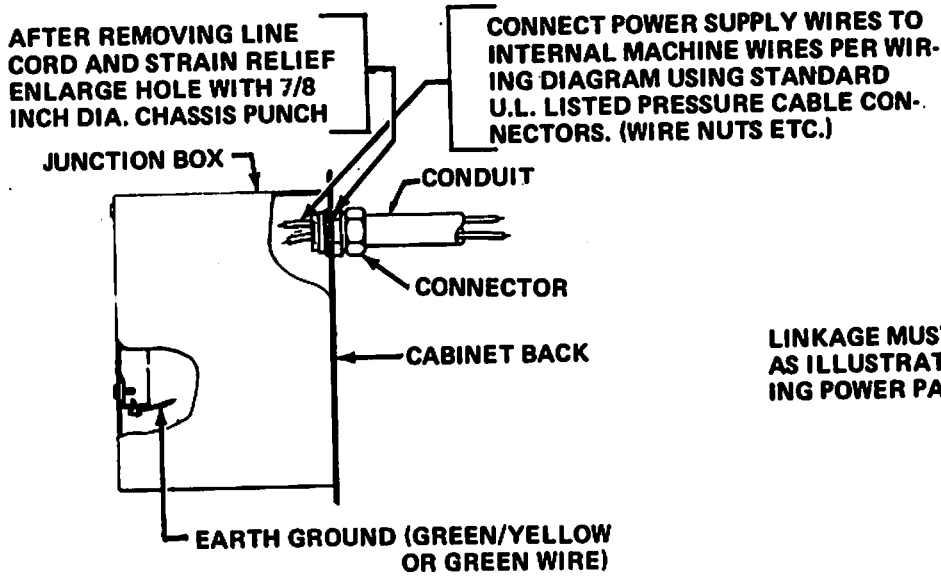

FIGURE 11. INSTALLATION OF 1/2 INCH CONDUIT
- If the changer is rigidly mounted to either wall or floor, it will be necessary to make the power input connection through rigid conduit into the changer to meet U.L. requirements. (See Figure 11).